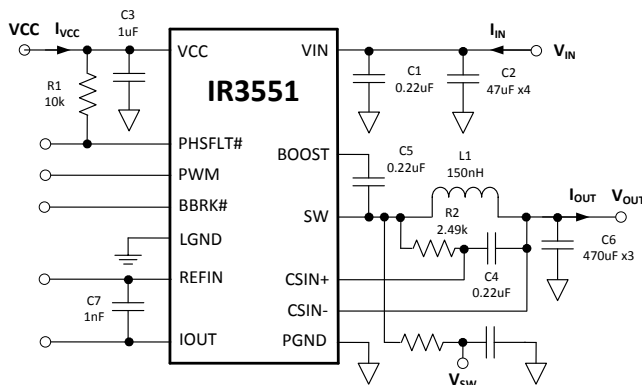

Figure 32: IR3551 Power Loss Measurement
Circuit of Figure 32, $V_{IN}=12V$, $V_{OUT}=1.2V$, $f_{SW} = 400kHz$, $L=150nH$ (0.29mΩ), $VCC=7V$, $T_{AMBIENT} = 25^{\circ}C$, no heat sink, no air flow, 8-layer PCB board of 3.7" (L) x 2.6" (W), no PWM controller loss, no inductor loss, unless specified otherwise.
The single-phase IR3551 efficiency and power loss measurement circuit is shown in Figure 32.